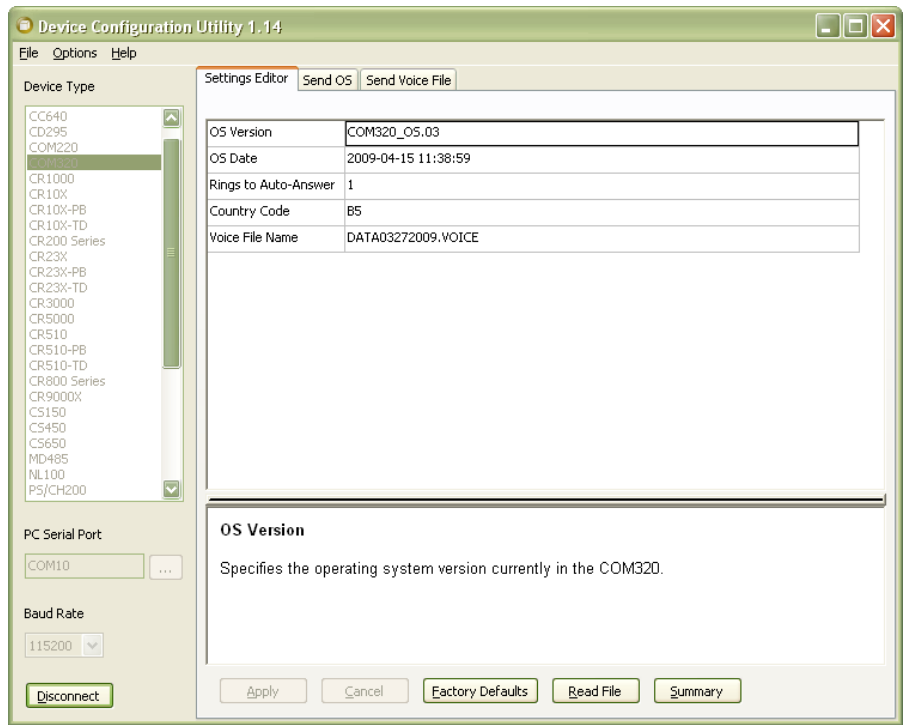

FIGURE B-3. Device Configuration Utility Settings Editor
- 7) Click on the Connect button to connect to the COM320 and enter the settings editor (FIGURE B-3).